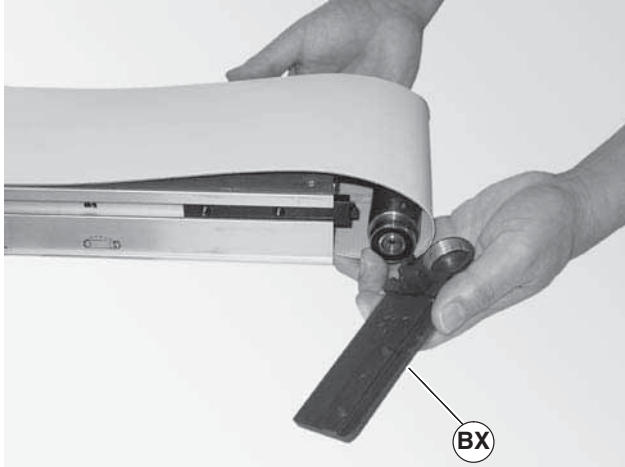

Figure 44
2. Remove the head plate (Figure 44, item BX) from the conveyor frame.